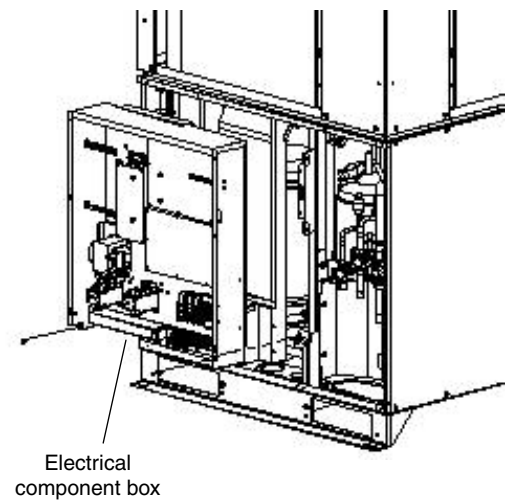

Fig. 4
- (2) Remove power and control wires from terminals.
- (3) Remove internal wires with extended connectors on the outdoor control PCB. (Solenoid valves, thermistors, crankcase heaters and others)
- (4) Disconnect power lines connected to the secondary terminals of the magnetic contactor for the compressor.
- (5) Remove the electrical component box (remove 2 screws). (Fig. 4)